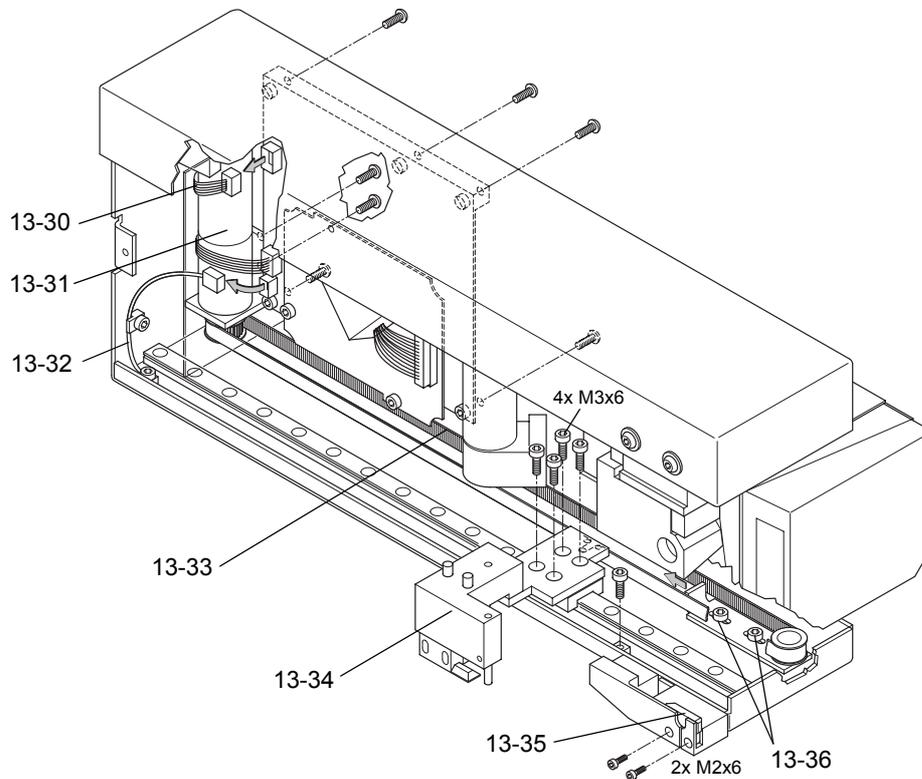

Figure 6-161 Y-drive assembly
The item numbers mentioned refer to Figure 6-161, 'Y-drive assembly'.
- Note the correct orientation of the encoder head (see Figure 6-161).